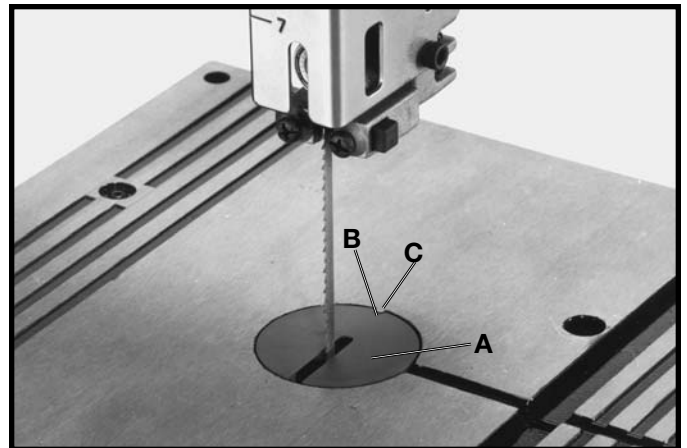

Fig. 9
1. Place table insert (A) Fig. 9, in opening of table.